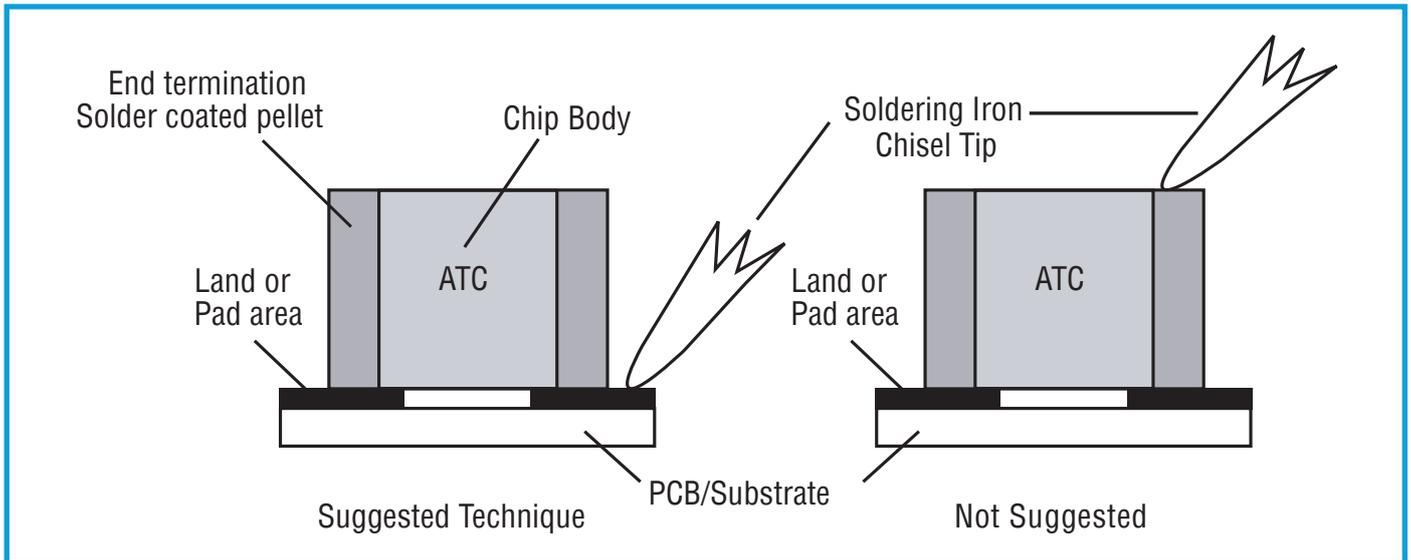

Figure 4. Recommended soldering techniques
7. Make sure that the capacitor is flat on the substrate and place the soldering iron on the land near the chip termination/land interface. When the solder starts to flow, move the tip of the iron slowly towards the chip. Quickly remove the tip once a fillet has formed. See Figure 4.